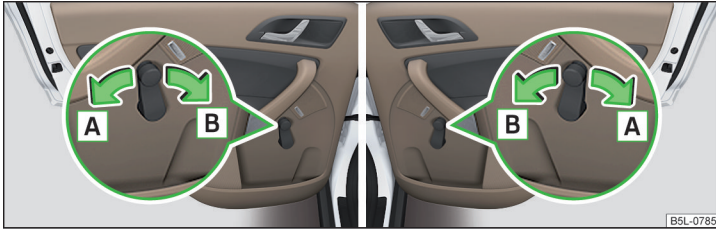

Fig. 37 Window Operation: Left / Right
- ▶ To **open**, turn the crank in the direction of arrow **A** » Fig. 37.